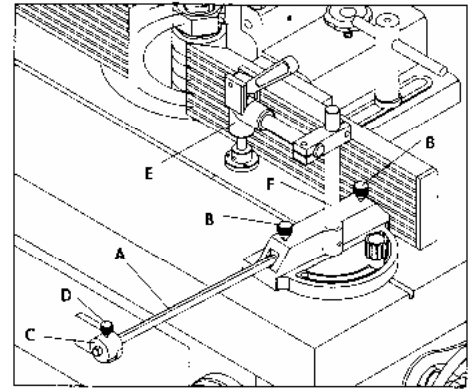

Fig. 3.35
1. Insert stop rod (A) Fig.3.35, into hole on side of miter gauge body and lock in place with locking knobs (B).
2. Assemble stop (C) to stop rod (A) as shown, and tighten locking knob (D).
A clamp (E) Fig.3.35 is supplied with your miter gauge to securely hold workpieces when shaping small piece across the gain.